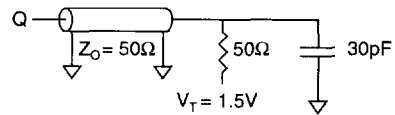

Fig. 1 OUTPUT LOAD EQUIVALENT
Output load	See Figures 1 and 2
- Test conditions as specified with the output loading, as shown in Fig. 1 unless otherwise noted.